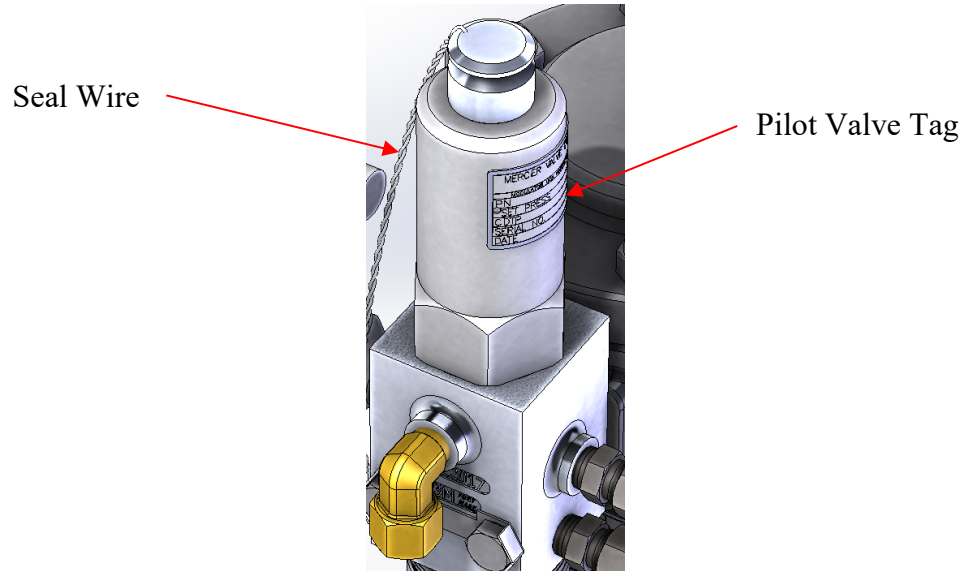

Figure 9: Typical Cap and Seal Wire on a Snap Pilot Valve
- Cap and Seal Wire – The valve cap and seal wire should be checked first on all inspections. These parts prevent adjustment tampering. On the seal wire, there is a pressed security seal that has an impression on it to indicate the certified company that last adjusted the set point of the valve. When this seal wire is cut or removed, it indicates that someone may have adjusted the set point or altered the valve. This voids any warranty the valve may have had. See Figure 9.